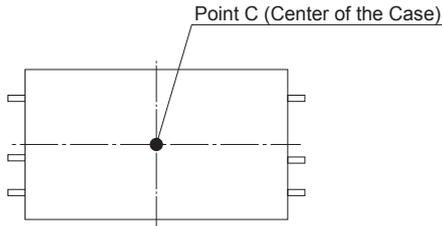

Fig.7.4 Temperature Measuring Point in the case of Forced Air Cooling (Upper Surface of the Case)
② SUC3
■ In the case of forced air cooling (1m/s), please have sufficient ventilation to keep the temperature of point C in Fig.7.4 at 100°C or below.